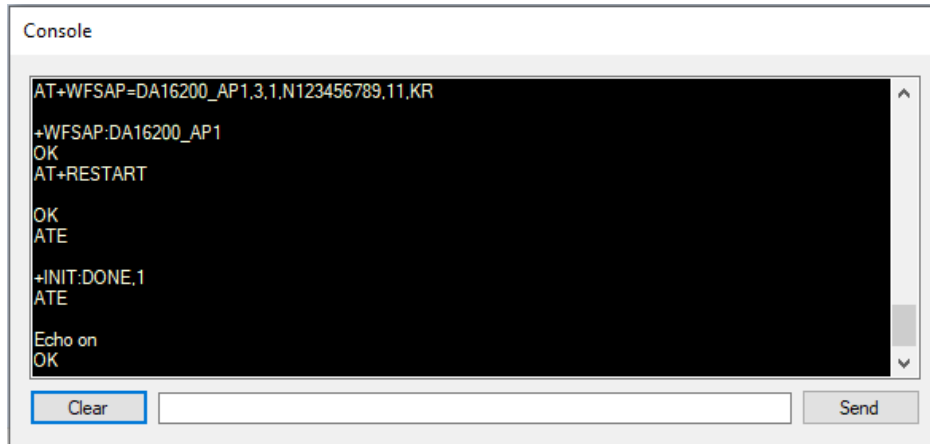

Figure 21: Debug Console – AP Configuration
- The Debug Console window messages appears as shown in Figure 21